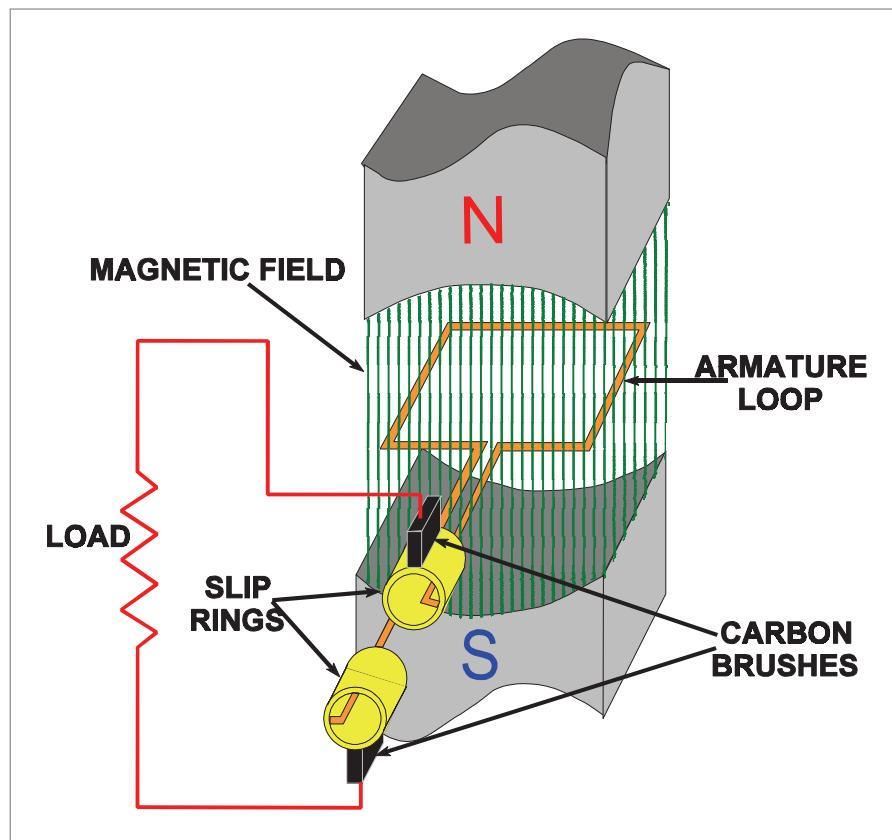
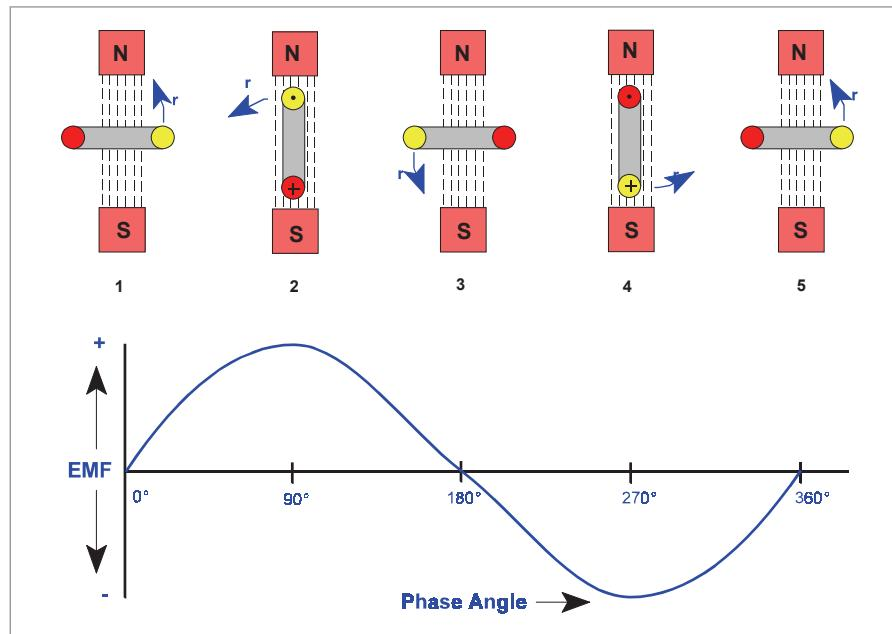

Figure 6.6 A simple AC generator
Figure 6.7 AC generator voltage output
The simplest form of a generator is a single loop of wire turning in a fixed magnetic field produced by a permanent magnet (*Figure 6.6*). The closed circuit is made by attaching rotating slip rings to both ends of the loop which are in contact with stationary carbon brushes. Continuous contact between the slip rings and the brushes is maintained by spring pressure. The brushes are attached to cables which form a closed circuit.
*Figure 6.6* and *Figure 6.7* show the layout of a simple AC generator and the voltage output rising then falling then changing direction as the armature sides reverse their direction through the magnetic field. The graphical view shows how a sine wave output of AC is generated. The maximum voltage is induced when there is maximum cutting of lines of flux. The position where no voltage is induced (position 1, 3 and 5 *Figure 6.7*), when the armature is moving parallel to the lines of flux, is known as the **neutral plane**.